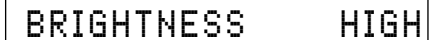

Figure 7
1. Repeatedly press the SETUP Push-button until "BRIGHTNESS HIGH" is indicated on the Front Panel Information Display. Refer to figure 7.